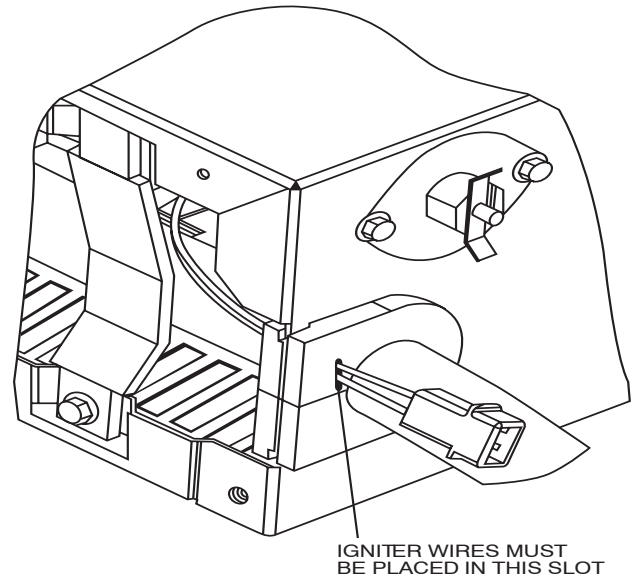

Fig. 7 – Igniter Wire Placement
15. Reinsert the igniter wires in the slot in the manifold grommet, dressing the wires to ensure there is no tension on the igniter itself. (See Fig. 7.)